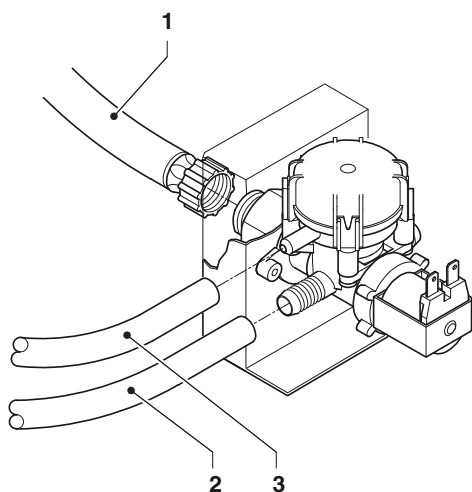

Fig. 21
Connect the water mains to the 3/4" connection of the water inlet solenoid valve (see Fig. 21) with a pipe of minimum internal diameter of 6 mm (also available as a kit), suitable for supporting the mains pressure and of a type suitable for food products.
The water inlet solenoid valve (see Fig. 21) is equipped with an anti-flooding device which allows the mechanical blocking of the input of water following a malfunction of the solenoid valve or of the control system of the level of water in the boiler.
- loosen the connection which fixes the input pipe of the solenoid valve for lowering the residual water pressure and tighten it again (see Fig. 21);